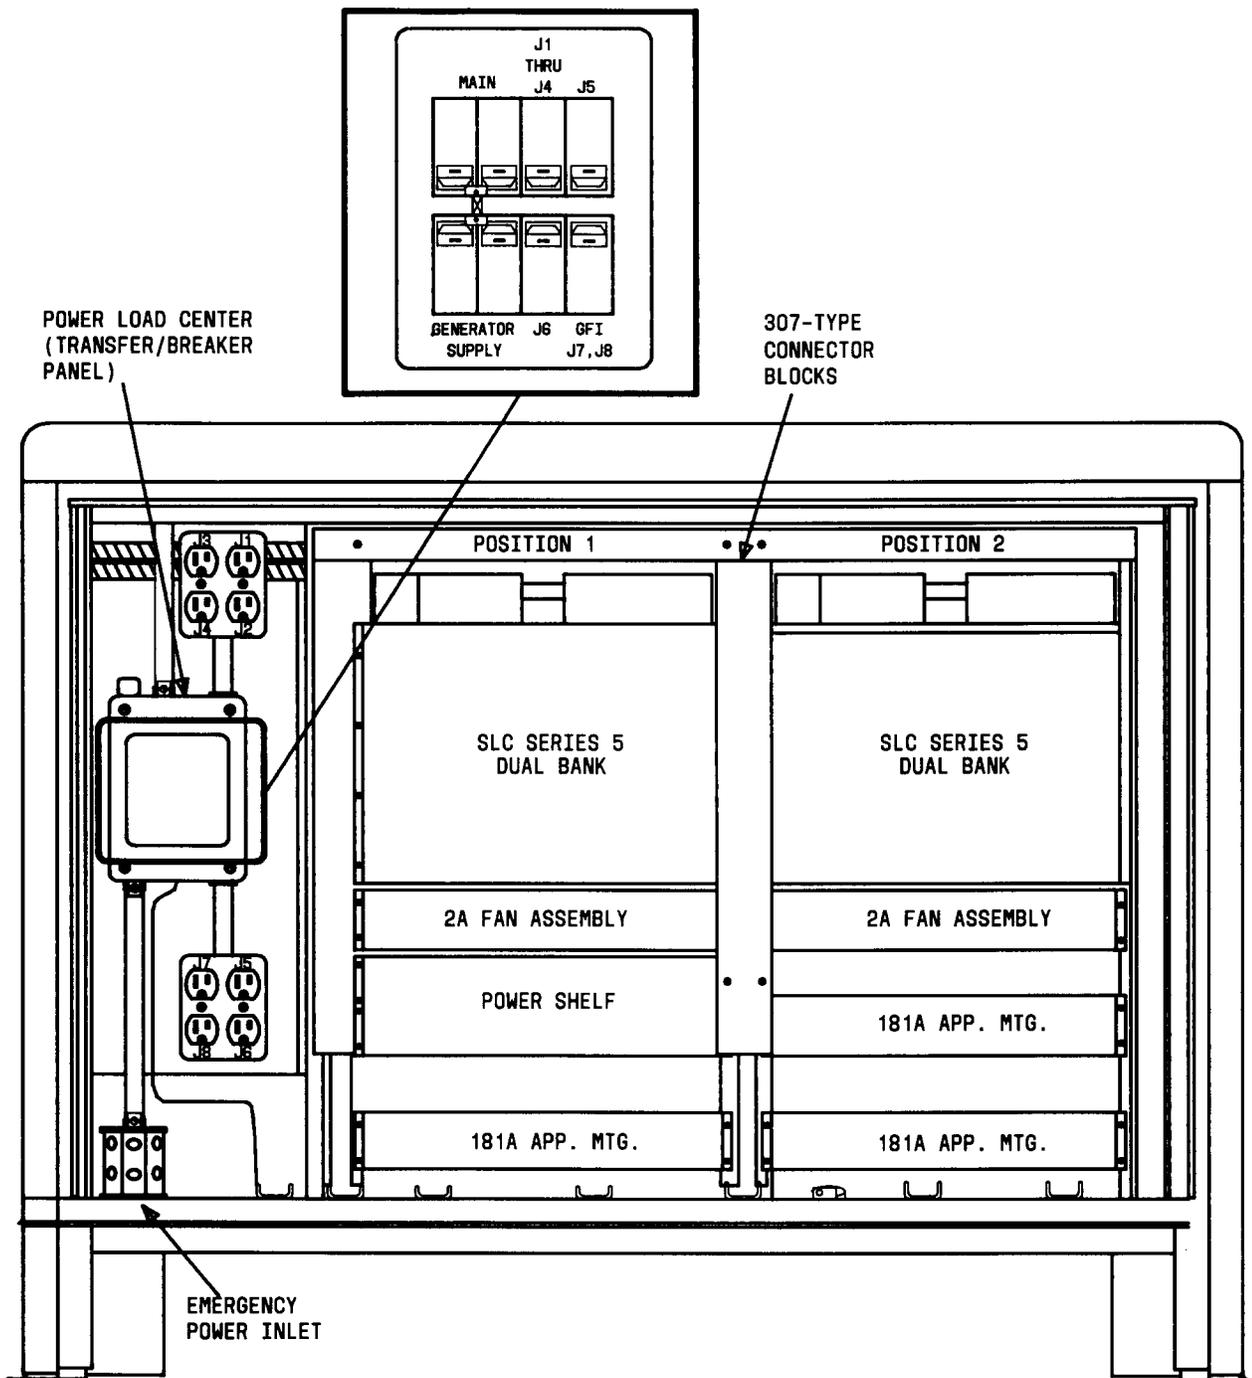

Fig. 2—No. 1 Side, Phase 1 80D Cabinet
8. Verify that no plug-in units are installed in dual bank assembly being equipped (Figure 2). Remove any units that are installed and proceed to Step 10.